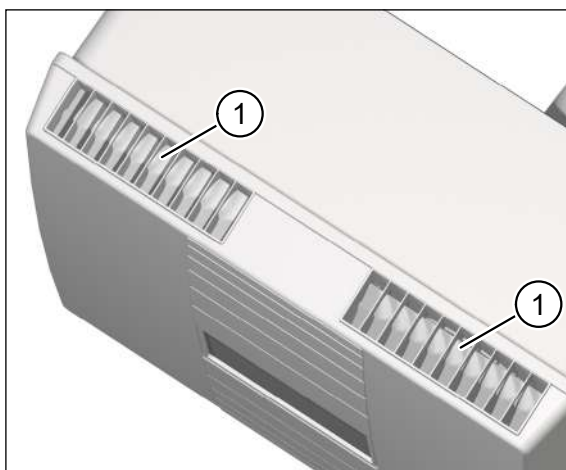
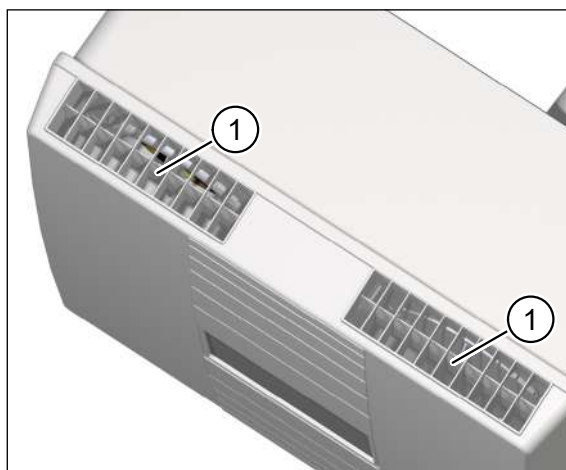

Fig. 15: Air flaps closed
Fig. 16: Air flaps open
- ▶ Check that the openings for extract air and supply air (see Fig. 15 and Fig. 16) are unobstructed.
- ▶ Check the position of the air flaps (see Fig. 15 and Fig. 16) on the extract air and supply air openings.
- Both air flaps will be closed if the ventilation unit is switched off or without power (see item 1 in Fig. 15).
- Both air flaps open when you switch on (see item 1 in Fig. 16).